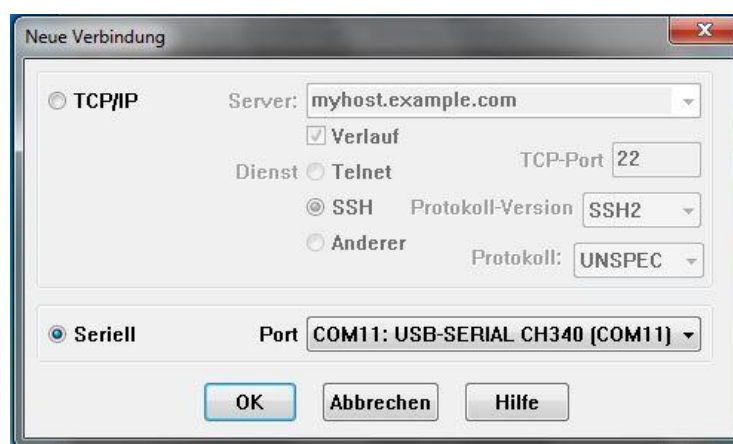

Figure 9 – Choose COM port in Tera Term.
9. Open Tera Term, select 'serial' in the pop-up window and choose the active COM port connected with your Arduino as shown in Figure 9. (Set the baud rate to 19200 in the settings of your serial port. The default baud rate in Tera Term is 9600, which is also the default baud rate in the latest Arduino sketch. If you are an advanced user, you can manually change the baud rate in the Arduino sketch and Tera Term. We have successfully tested 19200.)